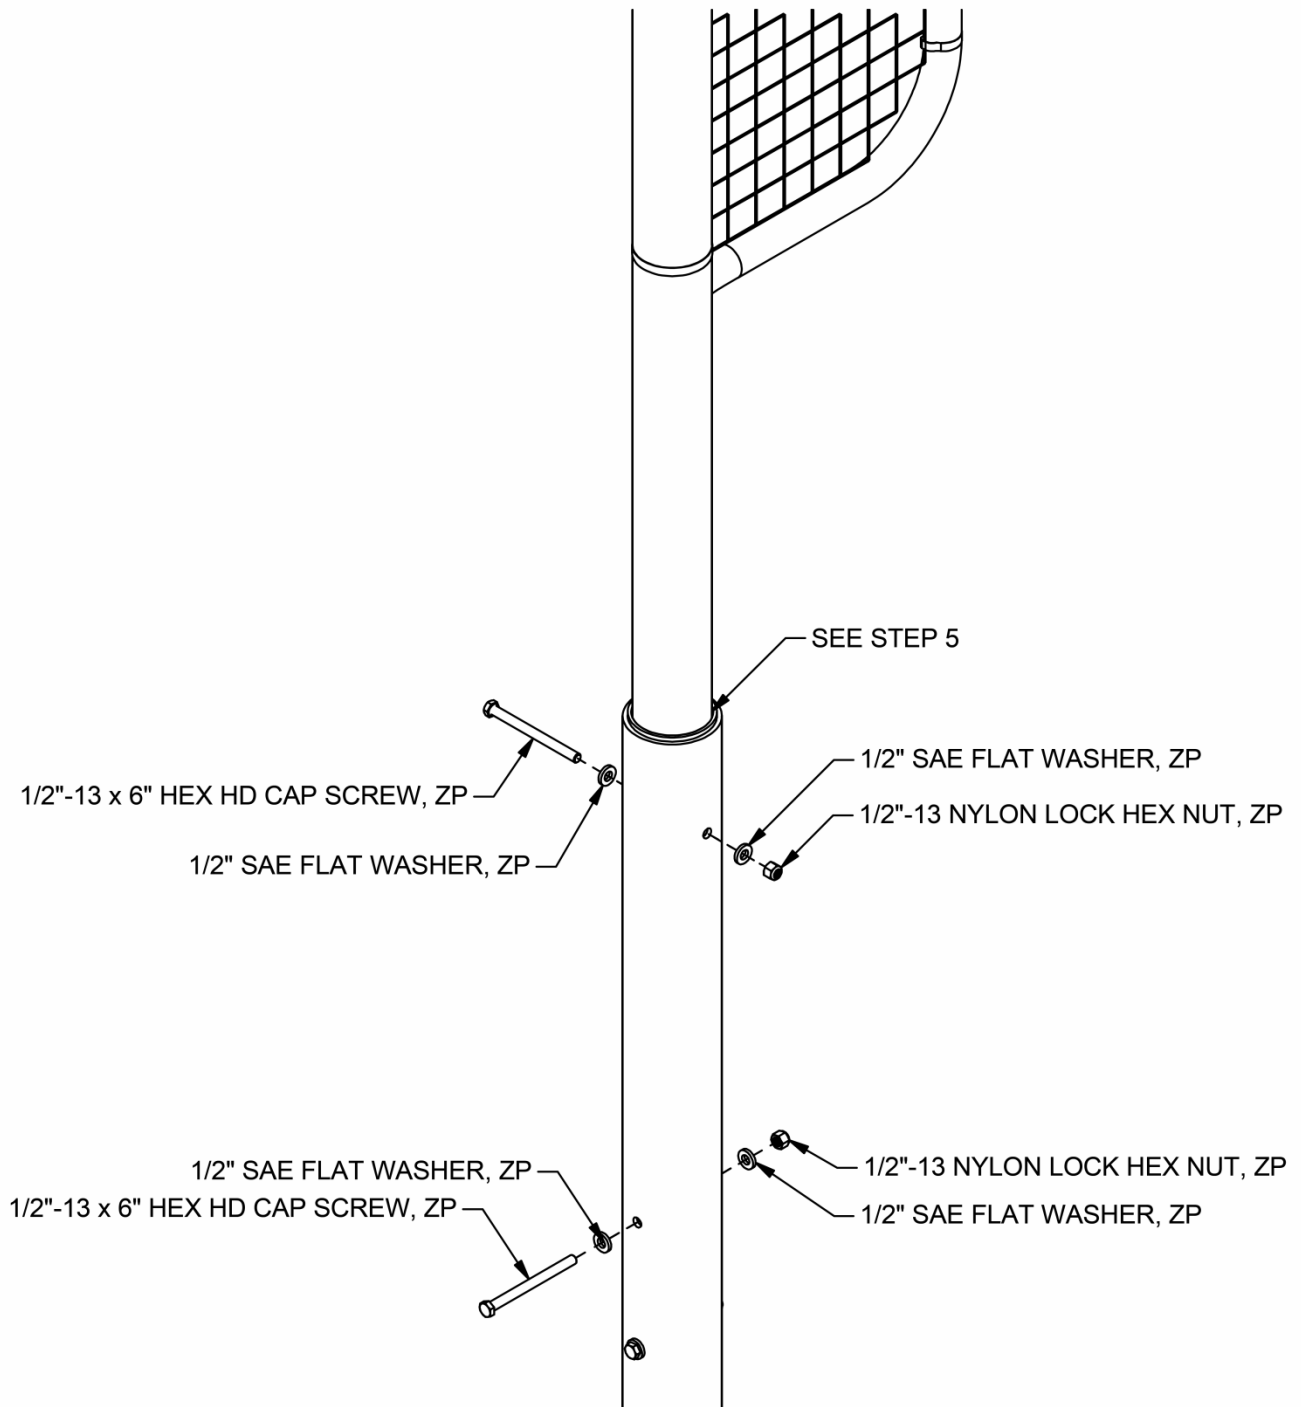

FIGURE: 7
4. Attach the top and lower foul poles together with 1/2" hardware as shown on figure 7.